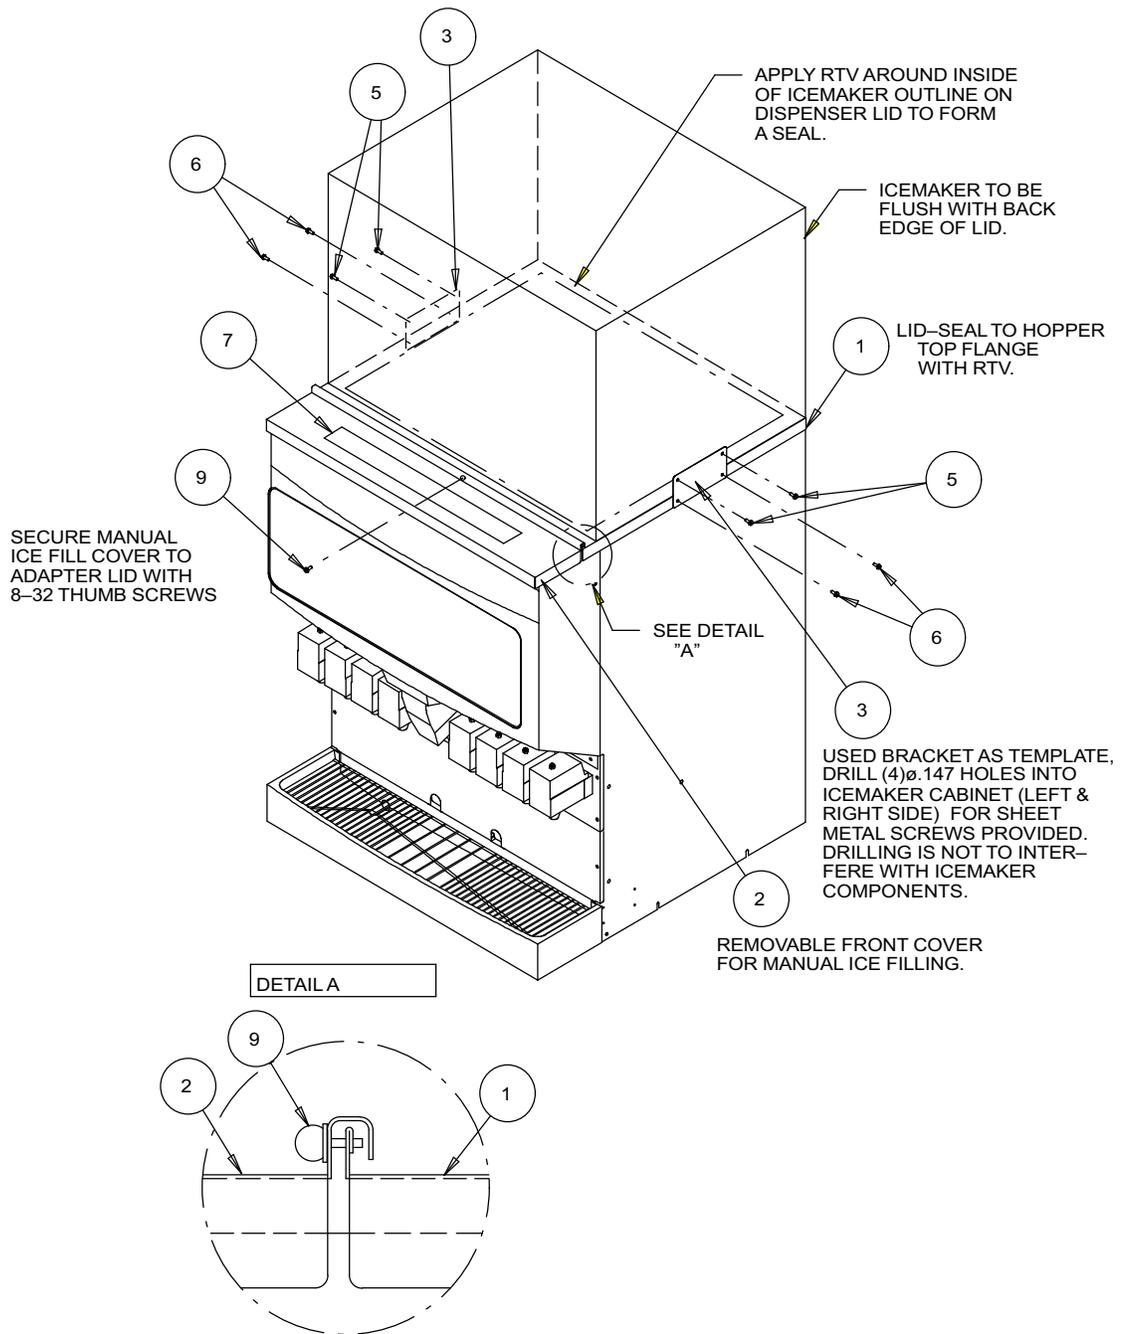

Figure 1.
2. Place the icemaker adapter lid on top of the dispenser and position it flush with the rear and sides of the dispenser as shown in Figure 1. Seal the lid to the ice storage hopper by running a bead of RTV on the top flange of the hopper around the perimeter of the lid.
3. Seal the icemaker to the dispenser lid as follows (See Figure 1.)
4. Secure the icemaker mounting brackets to the left and right sides of the dispenser lid with the #8-32 screws provided in the kit as shown in Figure 1. Using the brackets as templates, drill .147 diameter holes (#26 drill size) into the icemaker cabinet. Use caution to avoid drilling into any icemaker components (condenser, tubing, etc.) Secure the brackets to the icemaker with the #10 sheet metal screws provided.
6. Install the caution label on the manual fill cover as shown in Figure 1. Position the manual fill cover (item 2) over the front bin access opening by placing it over the front flange of the lid, refer to detail A of Figure 1. Secure the manual fill cover with the 8-32 thumbscrew (item 9) to the adapter lid as shown in Figure 1.